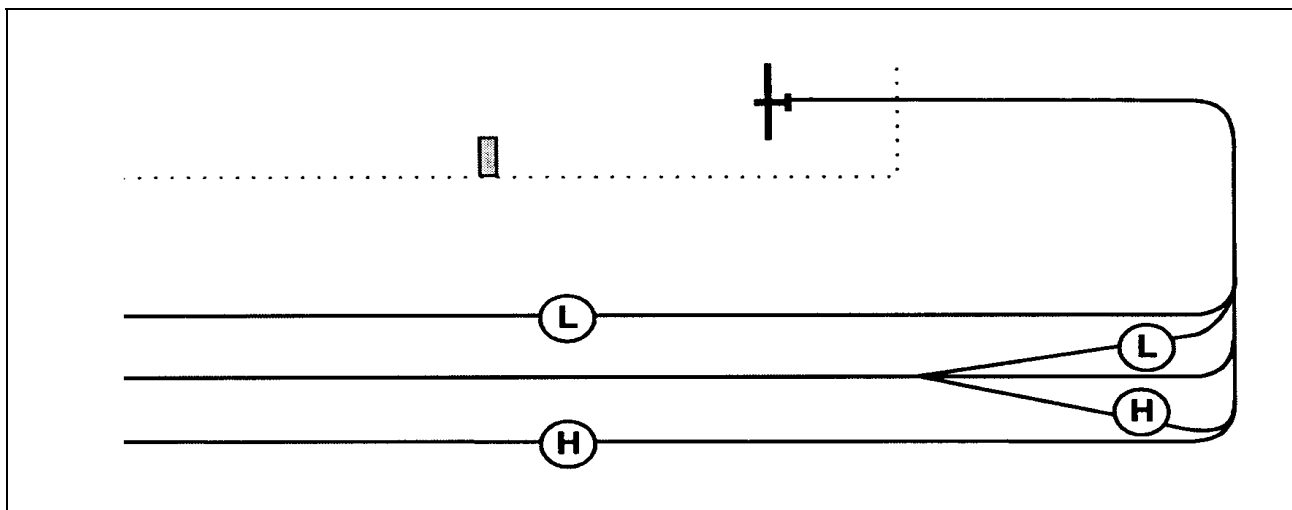

Figure 6-4-2 Downwind Modifications
8. After the halfway point of the downwind you should have a good idea whether you will be high or low for the base turn and you can adjust accordingly. You can shorten the downwind leg if you are low. You can even start angling in towards the landing area if you are extremely low (note Figure 6-4-2). If you are high you can use spoilers to lose the excess altitude or you can angle out slightly to give yourself a longer base leg. Under extraordinary circumstances you can modify your circuit as required to safely return the glider to the landing strip.